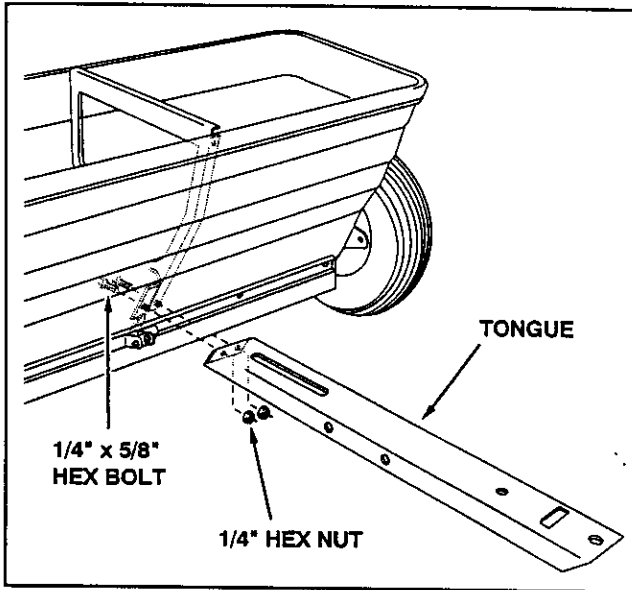

FIGURE 1
- Assemble the tongue to the hopper as shown in figure 1 using two 1/4" x 5/8" hex bolts and 1/4" hex nuts. **Do not tighten yet.**